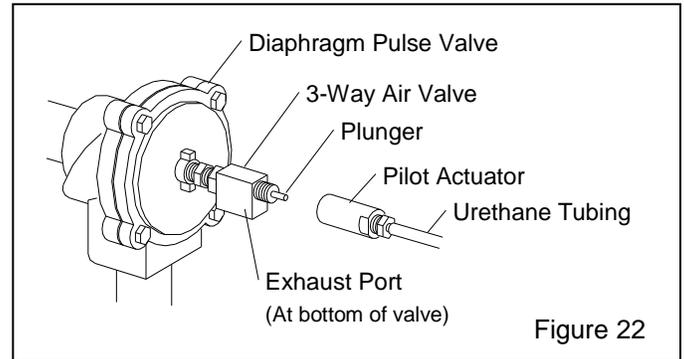

Figure 22
**7.17.5** Check the diaphragm pulse valve and actuator assembly. Refer to Figure 22.